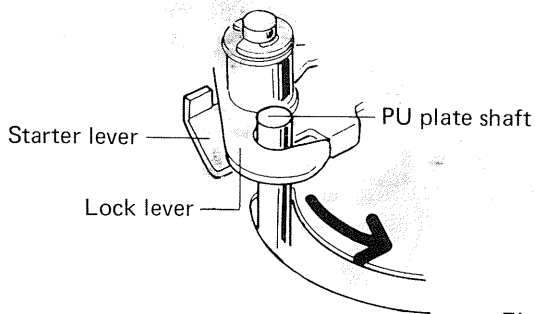

Fig. 5-2
4. As the cam continues to rotate, both the starter lever and lock lever move the tonearm up to the position determined by the selector lever (Fig. 5-2).